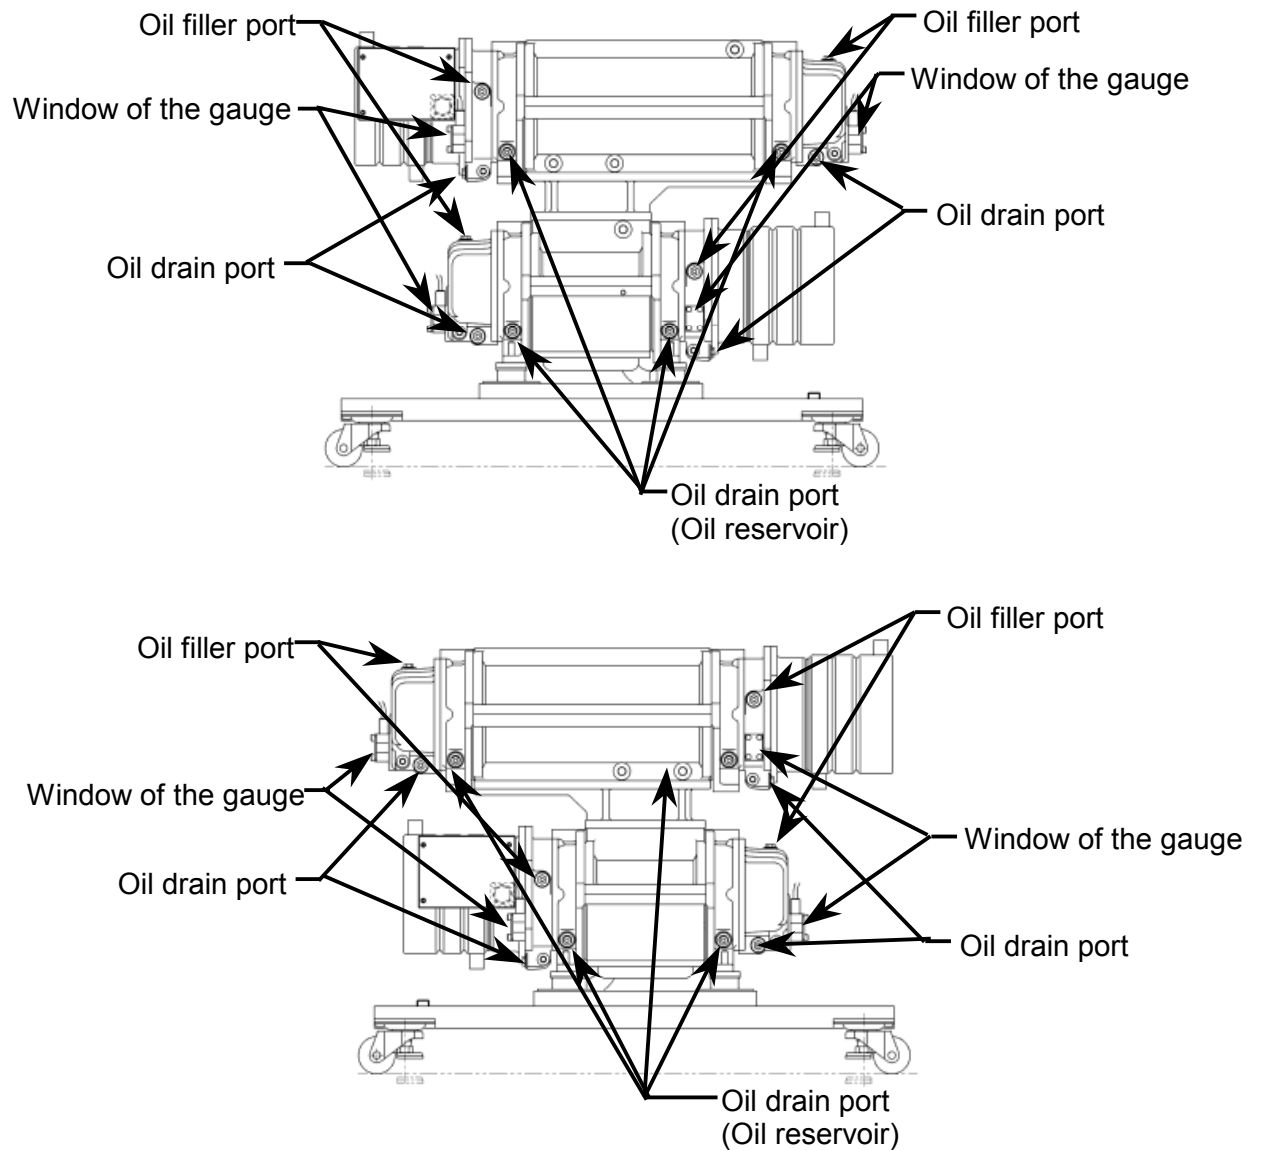

Fig. 8.1 Oil filler port, Oil level gauge, and oil drain port positions
- (1) Stop the pump and remove the outer side cover on the pump.
- (2) After you have waited until the internal pump pressure returns to atmospheric (normal) pressure, remove the plug from the oil-filler inlet. (See Fig. 8.1.)
- (3) Check the oil level from the sight-glass of the oil level gauge and fill lubricant oil until its level reaches the top line. (See Figs. 8.1. and 8.2.)
- (4) After you have checked that there are no depositions and fragments adhering to the O-ring attached to the plug, close the oil-filler inlet.
- (5) Fit a waste oil container (PVC bag) to the bottom of the oil drain hole of the secondary reservoir and remove the drain plug. (See Fig. 8.1.)
- (6) When you have drained off the waste oil close the drain hole after you have checked that there are no depositions and fragments adhering to the O-ring attached to the plug.